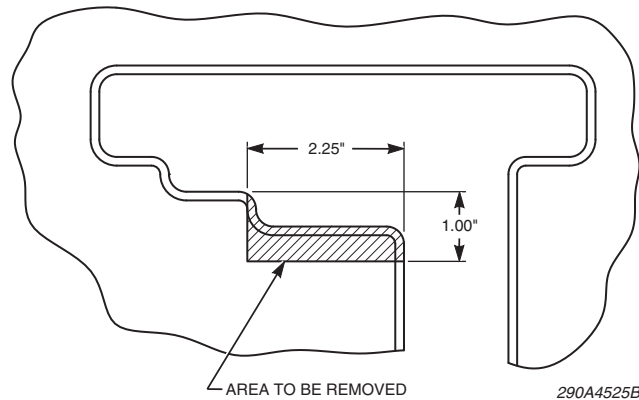

Figure 5: Area to be removed from plastic panel
1. Remove the area indicated in *Figure 5* from the plastic panel that you removed in step 2 on page 3.